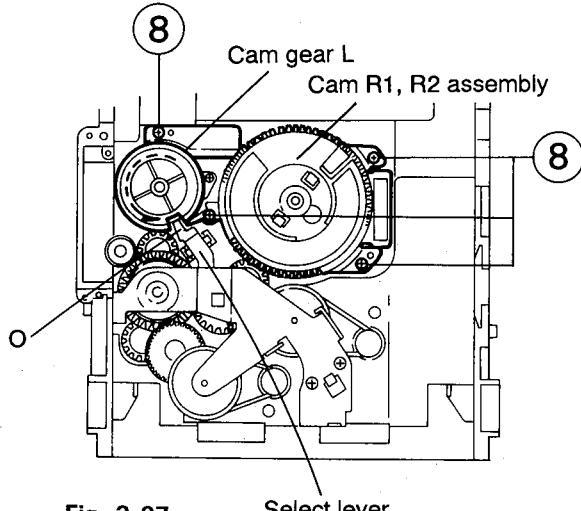

Fig. 2-27
- While turning the cam gear L, align the pawl (O) position of the select lever to the notch position (Fig. 2-27) on the cam gear L.
- Remove the four screws ⑧ retaining the cam unit (cam gear L and cams R1/R2 assembly) (See Fig. 2-27).